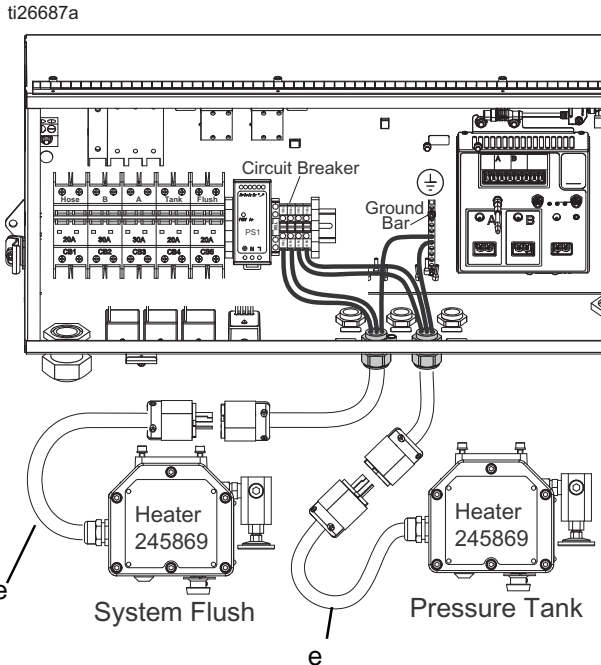

FIG. 16
- e. **For Non-Hazardous Location Models**, Connect heater power cables (e) for the tank heater and the flush heater to the terminal blocks. See FIG. 16.